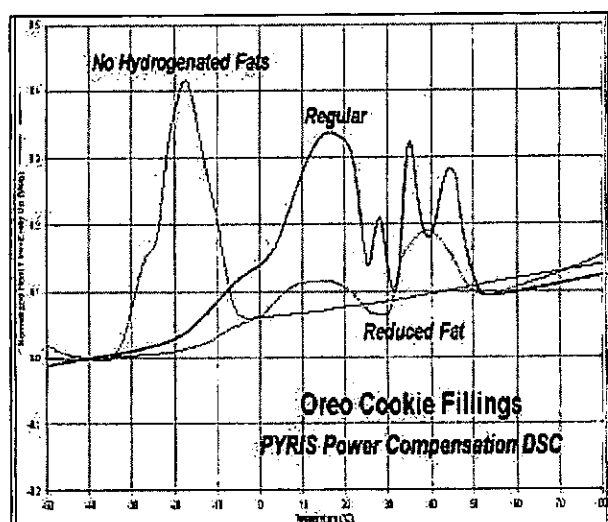

Figure 6: Overlay of DSC results for regular Oreo, reduced fat and non-hydrogenated fillings.
Displayed in Figure 6 is a direct overlay of the DSC results obtained for the three different cookie fillings. The differences in the melting responses of the fats comprising the fillings are very evident from these results.
polystyrene ( $M_w$  114,200) are obtained by electrospinning a chloroform solution; fiber diameter characteristics: average: 85.8 nm, maximum: 100.0 nm, minimum: 72.0 nm. These fibers are sufficiently electrically conductive that their scanning electron micrographs (SEMs) may be recorded without the necessity of applying a gold coating. Separate, individual nanofibers can be collected and examined if so desired. An appropriate substrate—glass slide, silicon wafer, or loop of copper wire, etc.—is held between the anode and cathode at a position close to the cathode for a few seconds to collect individual fibers (see Figure 6).
**Figure 6.** Polystyrene fibers collected on a bent copper wire (magnification 33 x) and subsequently coated with a thin layer of polypyrrole by in situ deposition from aqueous solution. Scale bar: 1 mm.